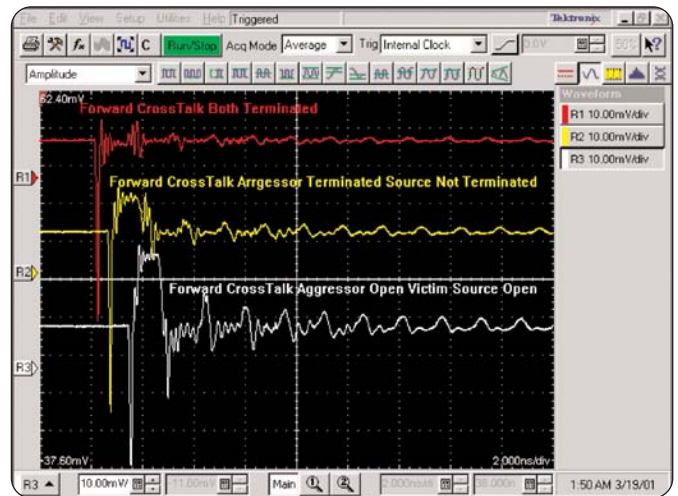

Figure 15. Measured crosstalk with both lines unterminated
Victim line end (Z) has a spike from the original forward crosstalk, followed by the reverse crosstalk from the first reflection in the aggressor line (X). The original victim line reverse crosstalk reflected from the open source (Y) will then sum up at the same time with (X) causing double voltage to the wide pulse! In addition, all the forward crosstalk narrow spikes will bounce back and forth from the open ends. Figure 15 displays these waveforms.